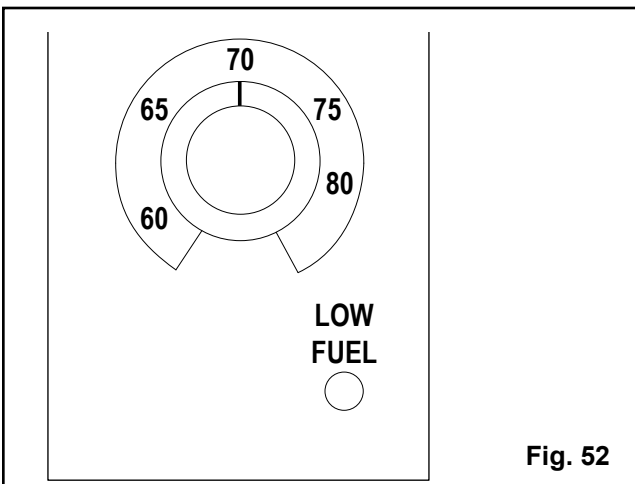

Fig. 52
7. Turn the Temperature Dial on the wall control to desired room temperature. Note: The set temperature on the dial must be higher than the room temperature for the fire to light, Fig 52.